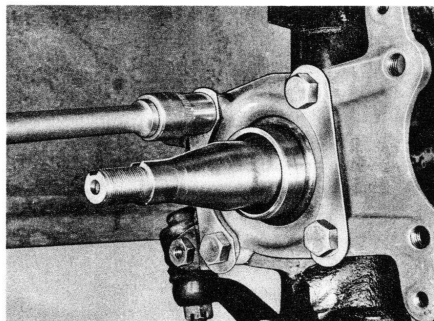

Fig. 7
9. Install brake carrier retaining bolts and torque to 4, 7 mkp (34 lb/ft) use new safety plates (see Fig. 7).